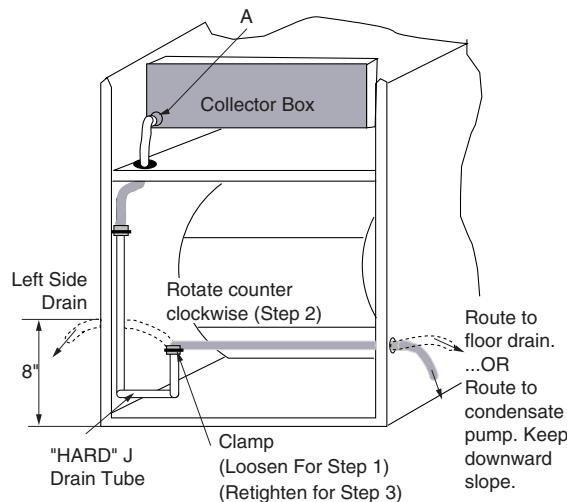

Figure 18. Furnace with Condensate Drain Trap Assembly
The condensate drain can be routed to a flow drain or to a condensate pump. Ensure that the drain maintains a downward slope from the unit to the drain. Refer to Figure 18 for more details.
For a right side drain simply extend the tubing out of the hole in the cabinet, see Figure 18. For a left side drain follow the steps below:
1. Loosen the clamp on the soft exit tube (see Figure 18.)
The condensate should drain from the plastic collector box (location A in Figure 18) as droplets or a small stream. If you notice the furnace has operated for more than 5 minutes without draining or the red status light on the control board is pulsing a 2-blink code follow the steps below.
1. Remove the collector box soft tube at location A in Figure 18 and insure the exit from the collector box is clear of any debris or obstructions.